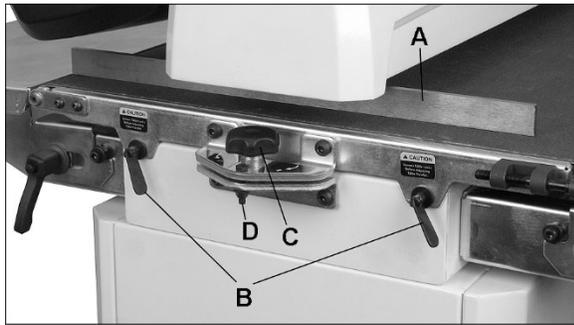

Figure 8-4: drum alignment
- Insert gauge (A, Figure 8-4) between drum and conveyor table at outboard side.
- Loosen both table locks (B, Figure 8-4)
Note: When sanding narrow stock (less than 16"), return conveyor table to parallel position. Turn knob opposite direction until lock nut (D, Figure 8-4) is contacted. The lock nut provides a positive stop for table parallelism.